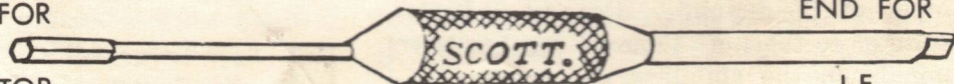
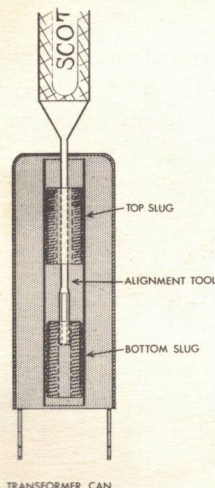

Figure 18
Figure 19
- d) Insert the slotted (IF) end of the alignment tool (See Figure 18), through the bottom cover hole beneath T3 and engage it into the bottom slug of T3. Adjust the slug for loudest, clearest volume. Insert the alignment tool into the top of T3, and again adjust for loudest, clearest volume. Repeat this procedure, in the same order, for T2. There will be no need to turn the slugs through their entire travel as there is only one place where the volume will appear to be the loudest. As the volume gets louder, turn the amplifier loudness control down.
- c) Insert the hexagonal (Detector) end of the alignment tool (See Figure 18 and study Figure 19) down through the top of T4, and engage the bottom slug. THIS PROCEDURE IS EXTREMELY DELICATE AND MUST BE DONE WITH CAUTION AND VERY SLOWLY, AS NOT ONLY DAMAGE TO THE CAN MAY RESULT, BUT MISALIGNMENT OF BOTH THE TOP AND BOTTOM SLUGS COULD RESULT. Adjust the bottom slug for maximum tuning eye closure. Now engage the top slug of T4 and adjust for maximum tuning eye closure. If the station starts to come in stronger, retune to a weaker station and re-adjust T4 for maximum tuning eye closure.
b) Now insert the alignment tool through the top of T501 and engage the bottom slug (See Figure 19), and adjust for maximum loudness of the tone. Engage the top slug of T501 and again adjust for maximum loudness of the tone.